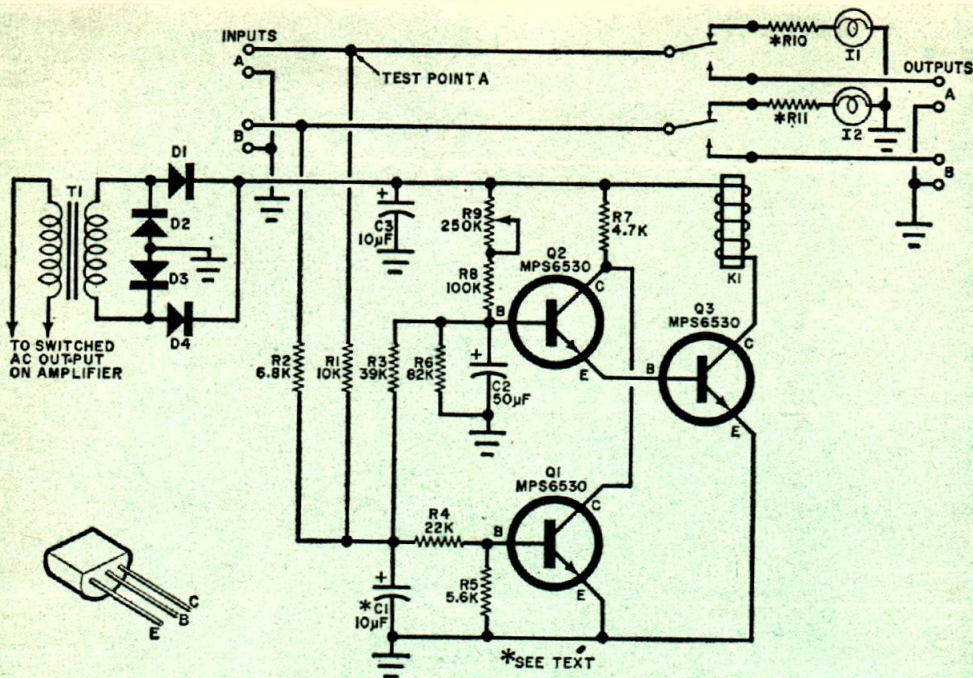

Fig. 1. Any high-level audio signal or constant d.c. voltage detected by amplifier circuit Q1-Q3 causes relay K1 to be deenergized.
**About The Circuit.** The Woof Guard is composed of two circuits: a timer which prevents turn-on and turn-off transients from reaching the speakers, and a voltage sensing circuit that “samples” the output voltage of the amplifier to determine whether or not to complete the circuit to the speakers. Resistor *R8*, potentiometer *R9*, and capacitor *C2* in Fig. 1 form an *RC* timing circuit.